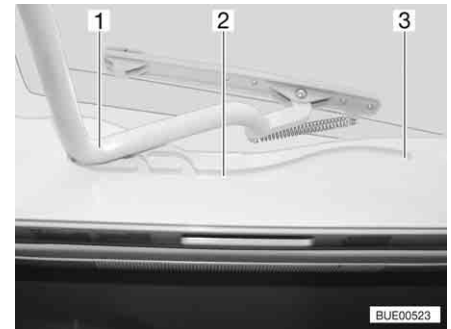

Fig. 55 Heki skylight, guide
- Pull the bar (Fig. 55,1) in the guides (Fig. 55,2) to the rearmost position (Fig. 55,3).
- Use both hands to push the bar (Fig. 55,1) slightly upwards.
- Pull the bar in the guides (Fig. 55,2) to the desired position.